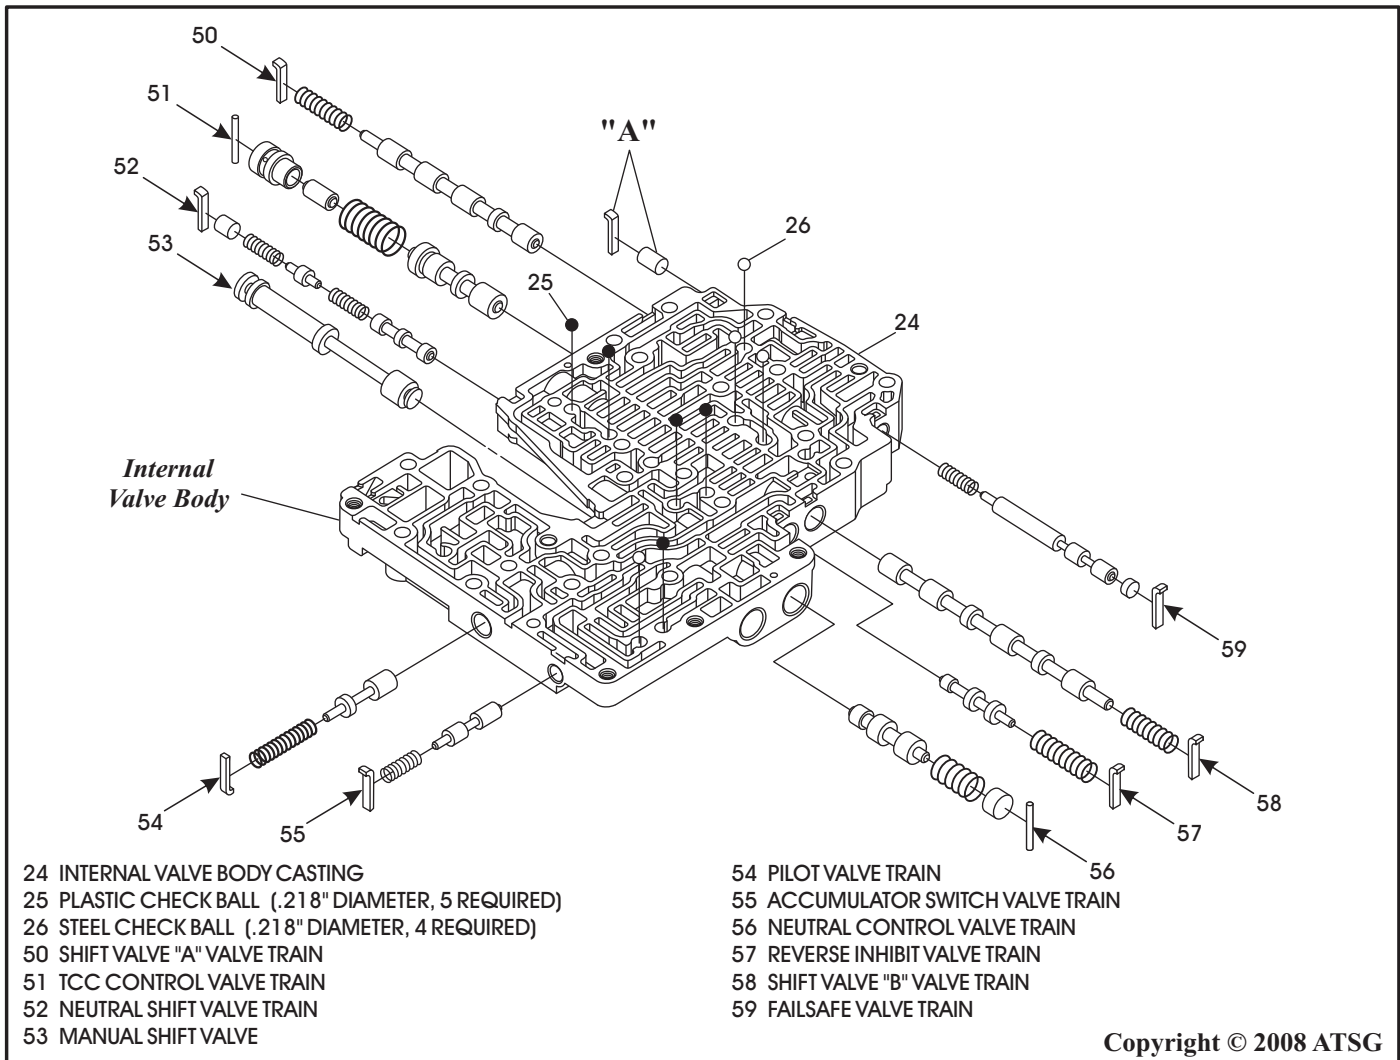

Figure 99
25. Disassemble the internal valve body, as shown in Figure 99, and place the valves, bore plugs and retainers in appropriate trays exactly as they were removed from casting.
Note: *There is no need to remove the bore plug and retainer identified with an "A" in Figure 99, as the valve is removed from opposite side.*
27. Assemble internal valve body parts *exactly* as they are shown in Figure 99, and lube with ATF as they are installed.
Note: *Install the retainers exactly as shown in Figure 99, as they install in different directions through out the valve body.*
28. Install the manual valve into the internal valve body in the direction shown in Figure 99.